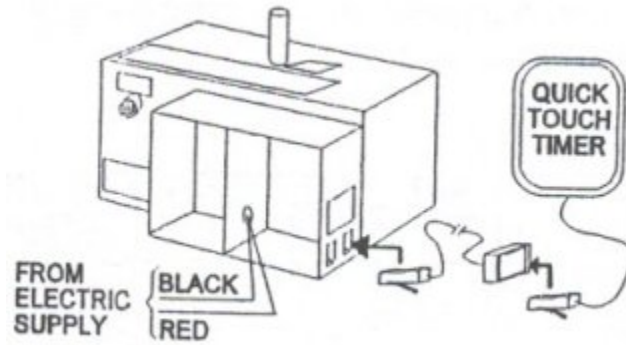

Fig. 8
2. Connect the Relax-A-Mist black & red wire one each to the two supply cables from the fuse or circuit breaker. See figure 8.